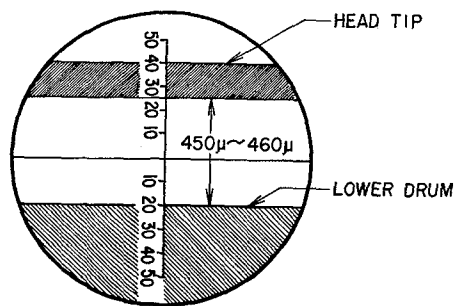

Fig. 1-18 Microscopic View of Head Height
- d) Regulate the each head tip height fine adjustment screws so that the head tip height is within a range of from 450μ to 460μ from the upper end of the lower drum (ref. fig. 1-18).